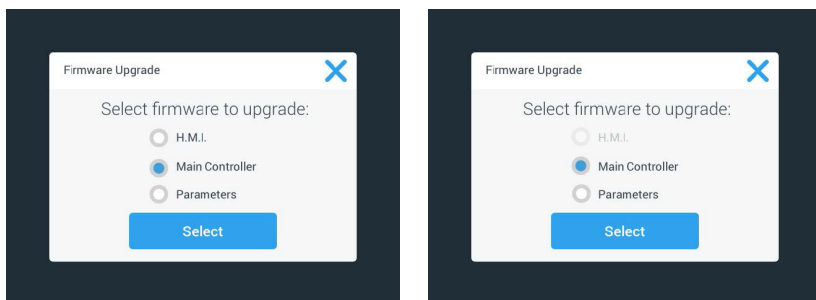

Figure 120: Select Firmware Item to Install
11. If there is firmware to upgrade, the itemized list shown in Figure 120 appears in the Firmware Upgrade screen. Tap on the firmware item you wish to upgrade.